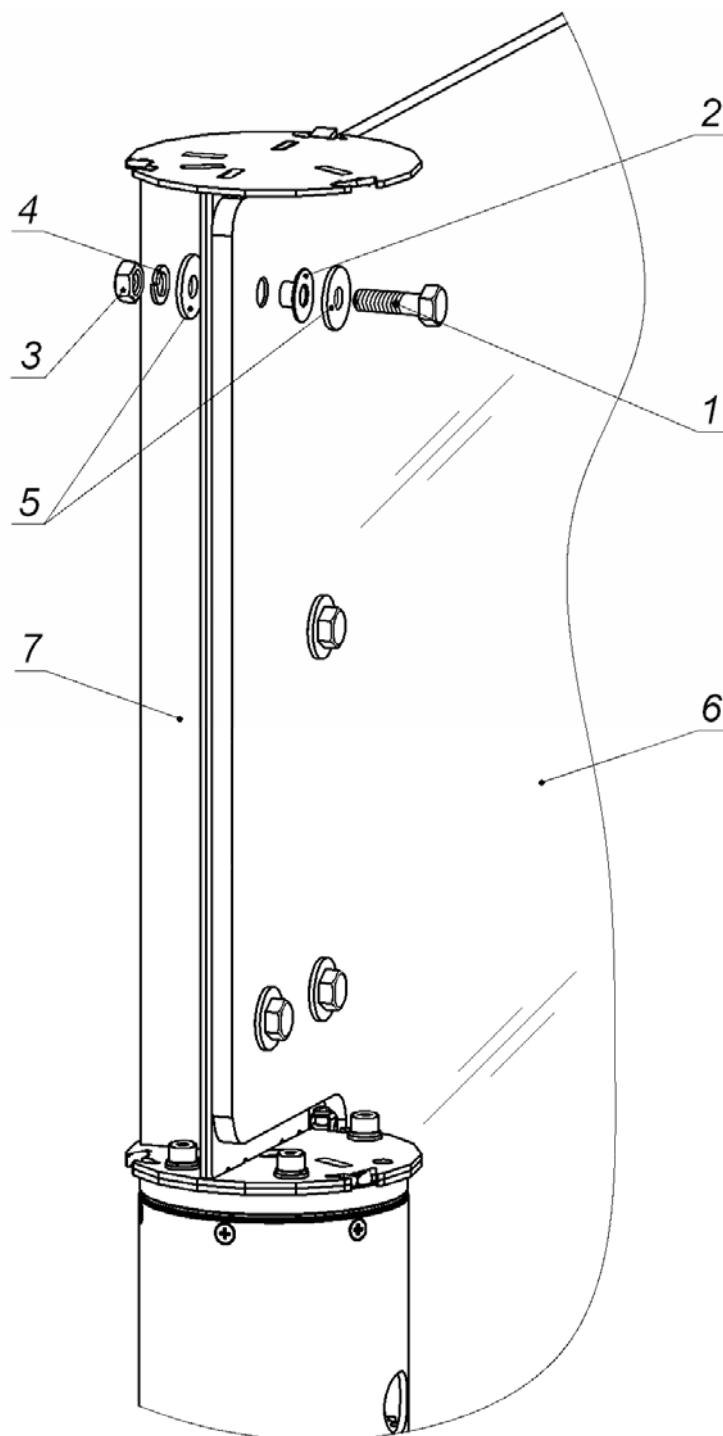

Figure 12. Glass panel mounting
15. Mount the glass panel according to Fig. 12. Fix the panel (6) on the rotary support (7) with elements (1) – (5).